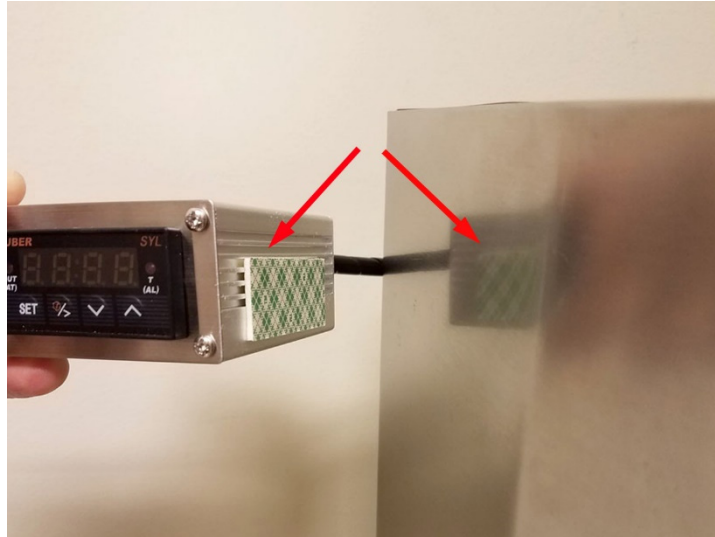

Figure 34. Area need to be cleaned before applying the foam tape.
- 6) **Mounting the controller box to the coffee machine.** First, to ensure a good adhesion between the foam tape and the metal surface, clean the area that you want to mount the controller box using medical alcohol or rubbing alcohol. Make sure the mounting area is free of dirt or oil. Wait till this area is dry. When properly installed, the 3M double tape is very strong and durable. It is for industrial use in such as building structures and automobile parts. The red arrows in Figure 34 point to the area need to be cleaned.